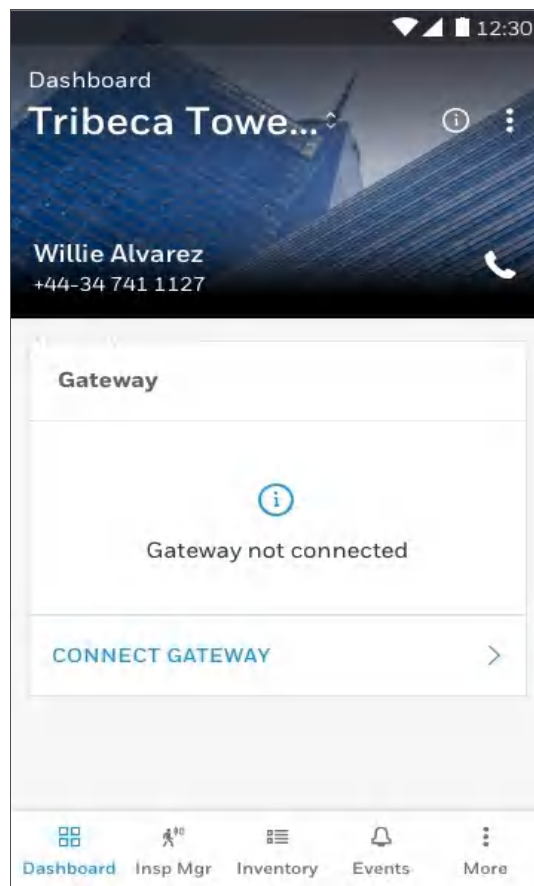

Figure 5.2: Building Details Page
11. To commission the CLSS Gateway mainboard, tap on **CONNECT CLSS Gateway mainboard** and follow the on-screen instructions (see Figure 5.2).